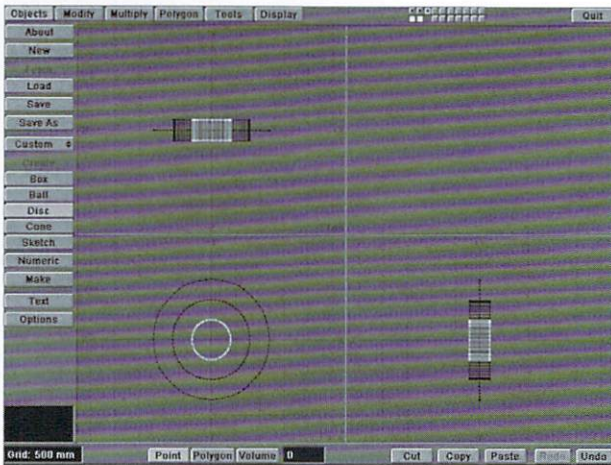

Figure 3: The disc sections that will eventually become vent intake objects.
- Still with the Disc tool selected, go to a third empty layer and click on Numeric. Change the value for the radii to read 0.4, 0.4, 0, and make the disc (Figure 3).